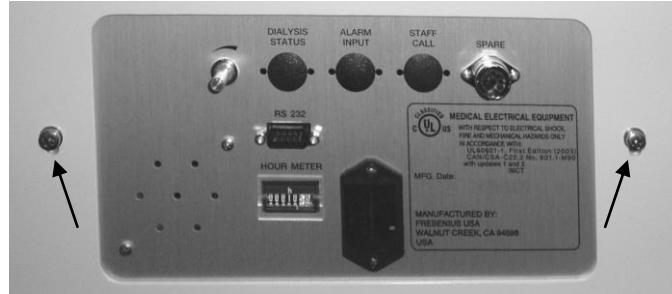

Figure 3
- 4.5 With the machine turned off, remove the two (2) screws securing the card cage into the cabinet (see Figure 3). Slide the card cage out the front of the cabinet a few inches.